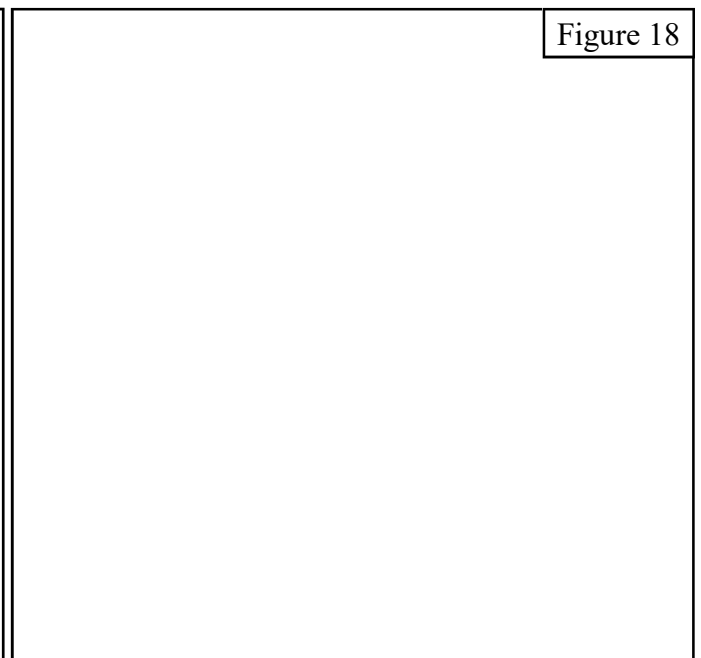

Figure 18
19. Crank the system up so the *Rim* (CC) is at 10', use a tape measure to assure the rim is at 10'. Adjust the *Height Gauge* (F) by rotating it so that it reads 10' then tighten the *Height Gauge* (F) hardware. Fill holes on the other side of the *Lower Arm* (C) with the $1/4'' \times 2 1/2''$ *Hex Bolts* (V) and $1/4''$ *Hex Nuts* (W). See Figure 18.
20. Install *Pole Pad* (DD) & *Backboard Padding* (EE) if applicable per the instructions included with them.